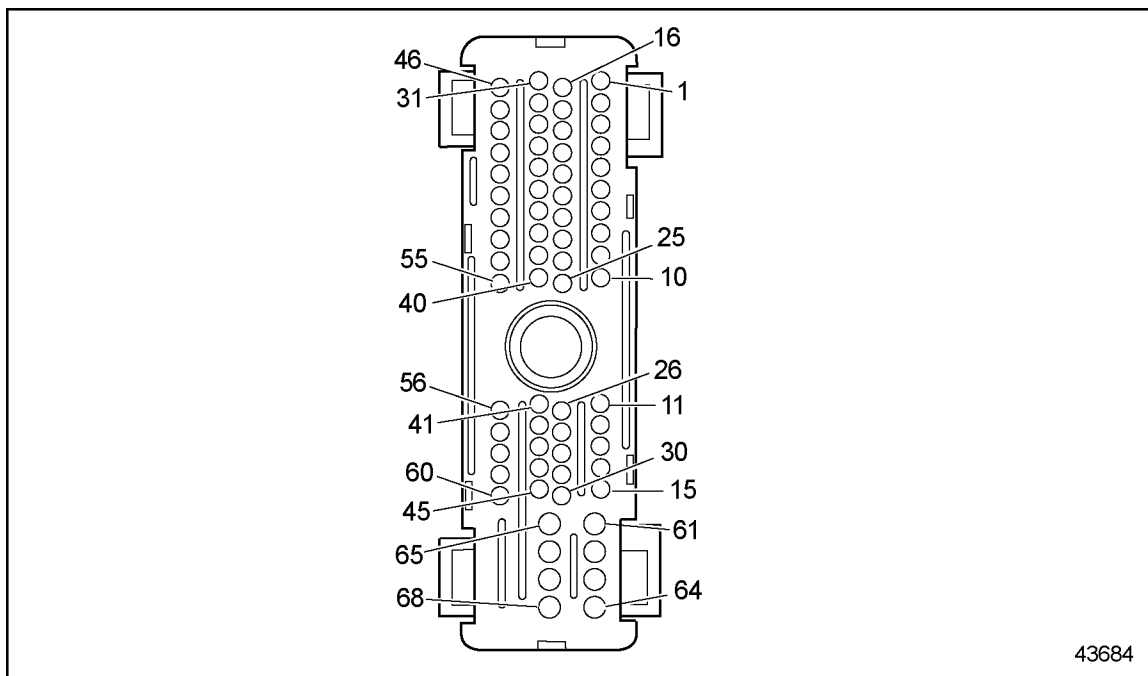

Figure 32-3 ECM/ECU Engine Harness Connector
3. Measure resistance between sockets E-2 and E-14 on the engine harness connector. See Figure 32-3.